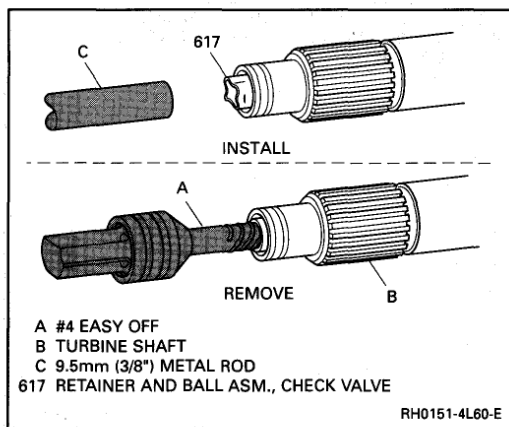

Figure 55 Retainer and Ball Assembly - Replacement
**Remove or Disconnect****Figure 55**
**Install or Connect****Figure 55**
- New check valve retainer and ball assembly (617).
Figures 55 and 57